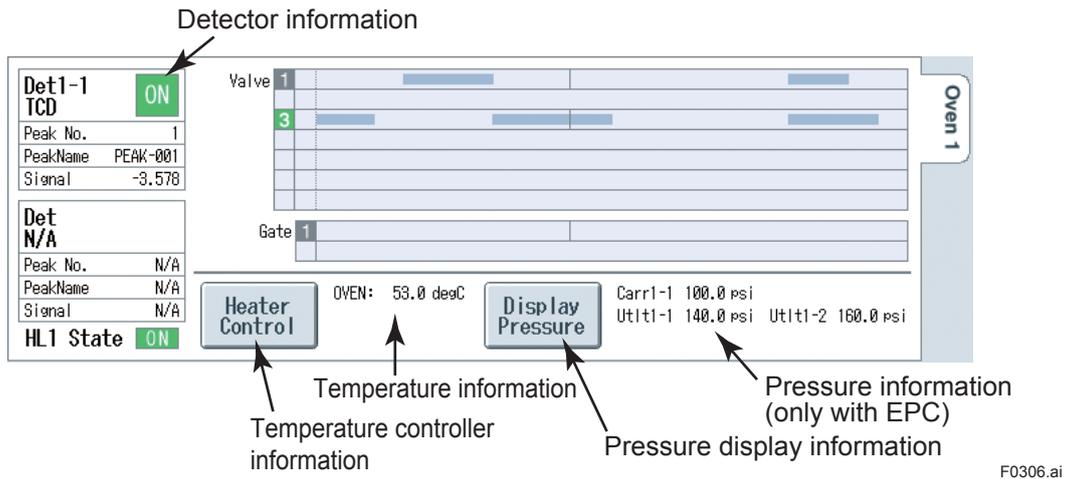

Figure 3.6 Example of Oven Information Display Area
- (3) The temperature information can be checked. Refer to figure 3.6.
- (1) The SYS tab with the detector to be checked is selected.
(2) The detector information can be checked. Refer to figure 3.6.
(3) When **SYS Det Control** is pressed, the following information are indicated
- (1) The SYS tab with the EPC to be checked is selected.
- (2) The pressure information can be checked. Refer to figure 3.6.
- (3) When  is pressed, the set pressure, present pressure, and EPC ON/OFF status of the Carrier n-n-1 to n-4 and Utility n-1 to n-4 are indicated.